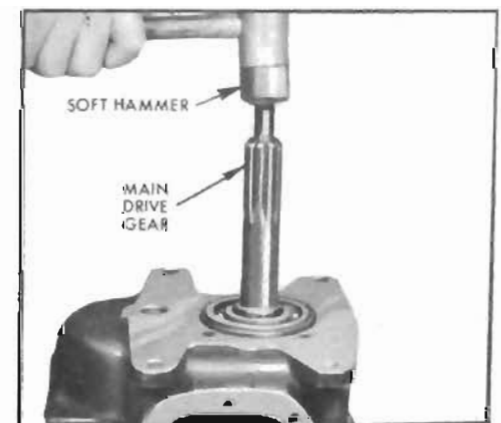

Figure 4-47—Removing Main Drive Gear
13. With soft hammer, tap main drive gear down from front bearing as shown in Figure 4-47.